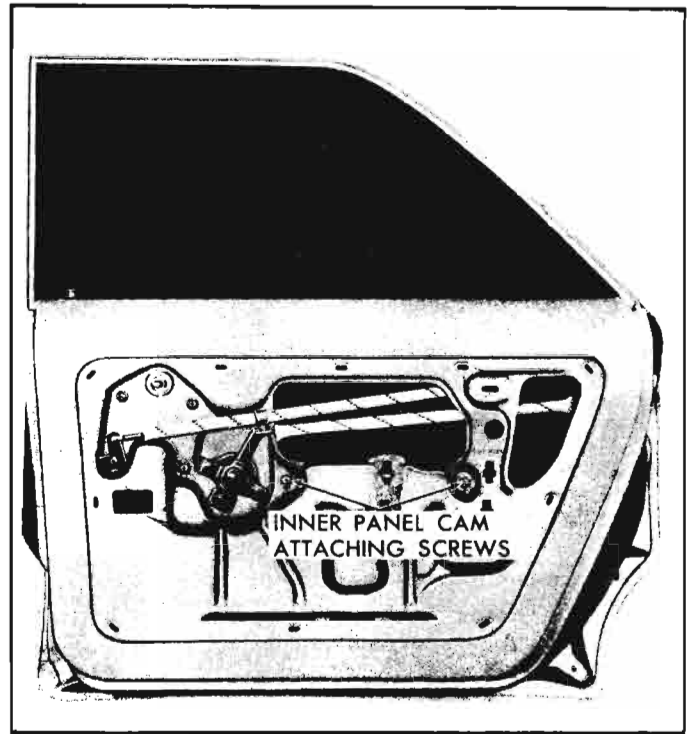

Fig. 10-106—Rear Door Window Guide Roller Attachment
2. Remove rear door inner panel cam (see Figure 10-106).